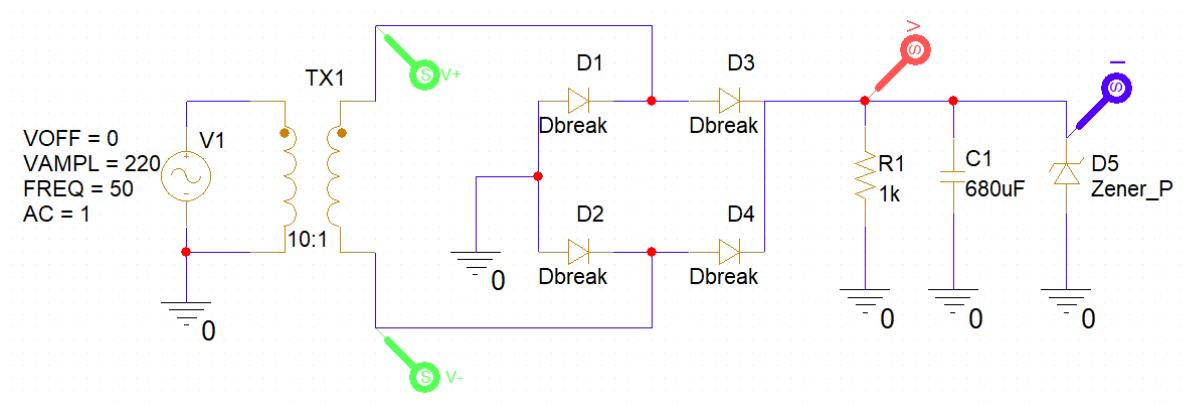

Figure 1.55: Rectified voltage regulated with a capacitor and a zener diode
- **Step 4:** Add a zener diode as in Figure 1.55 with the *zener voltage* properties set to 22 volt then simulate the circuit and comment or explain the result.